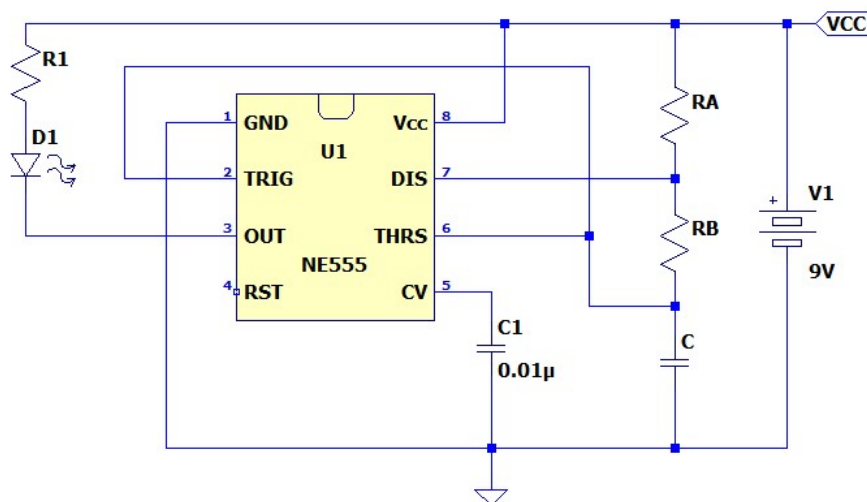

Figure 7 - 555 Timer Circuit
Using a 555 Timer IC, resistors, capacitors and an LED, we will construct a simple timing circuit that will blink an LED indefinitely. Choosing the on and off times for the LED will determine the R and C values in the circuit. The following steps will walk us through determining the R and C values and the construction the circuit shown in Figure 7.
E. Construct the circuit in Figure 7 with the resistor and capacitor values above and test the circuit.